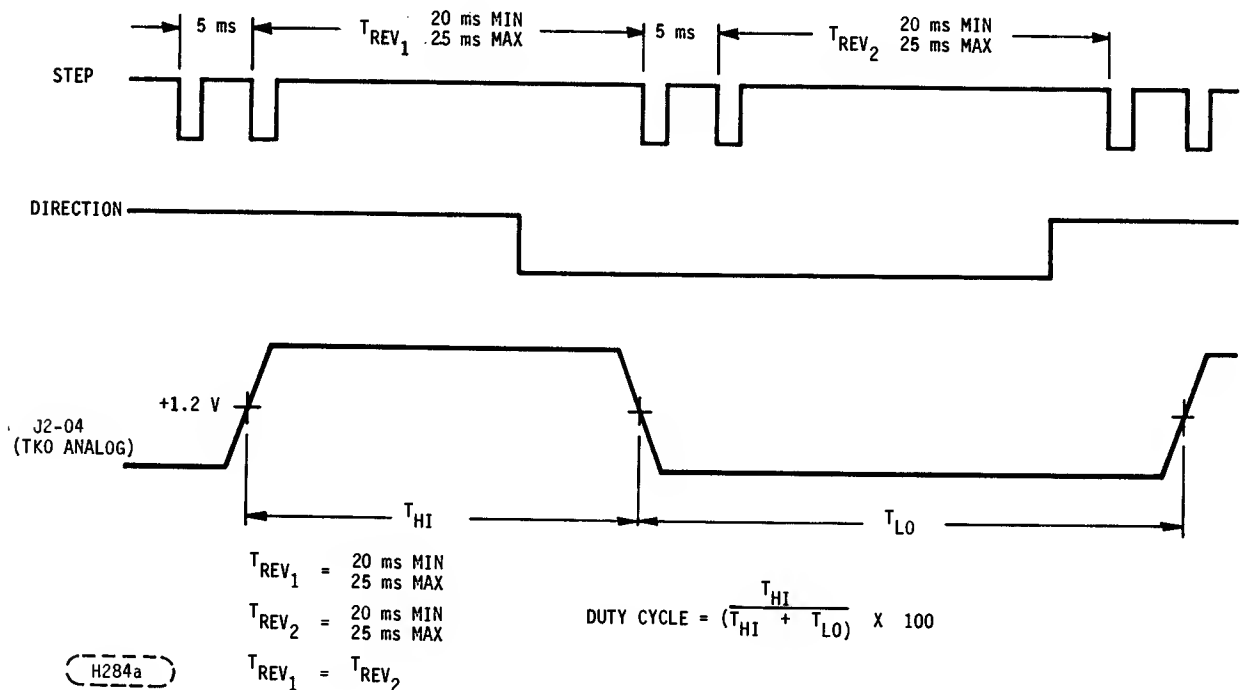

FIGURE 6-6. STEP PULSE TIMING DIAGRAM
- Perform an alternate seek between Track 00 and Track 02. The "STEP IN" portion of the alternate seek cycle must be symmetrical with the "STEP OUT" portion, including any turn around delays at Track 00 and Track 02. The time between step pulses must be 5 ms with a minimum of 20ms and a maximum of 25 ms when reversing (see Figure 6-6). The Track 00 switch signal on J2-04 (Data PWA) should alternate between high and low logic levels at a 50% duty cycle measured at the +1.2 V level.